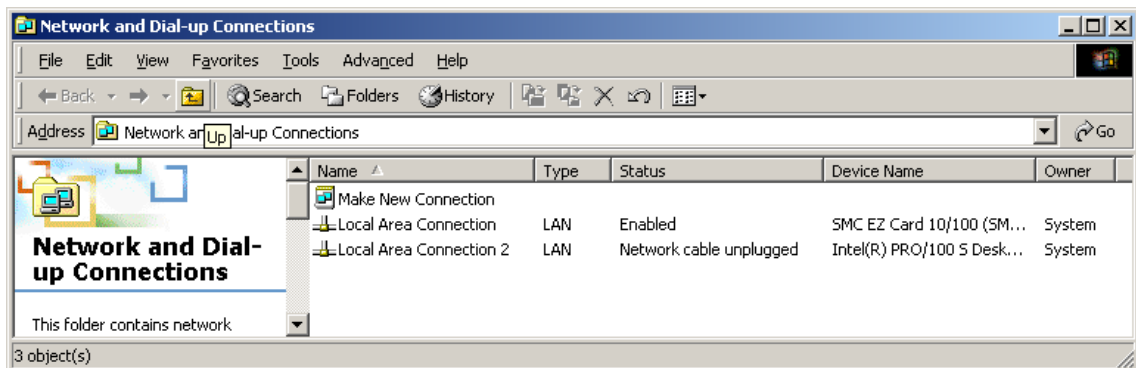

Figure 1.3-1 Network and Dial-up Connections dialog box
A "Network and Dial-up Connections" dialog box (Figure 1.3-1) will appear.
- (3) Confirm that the network card used to connect to the C1 controller appears in the name field in the Network and Dial-up Connections dialog box (Figure 1.3-1). After confirming that the network card is registered, right click on its name. Select "Properties" from the popup menu.